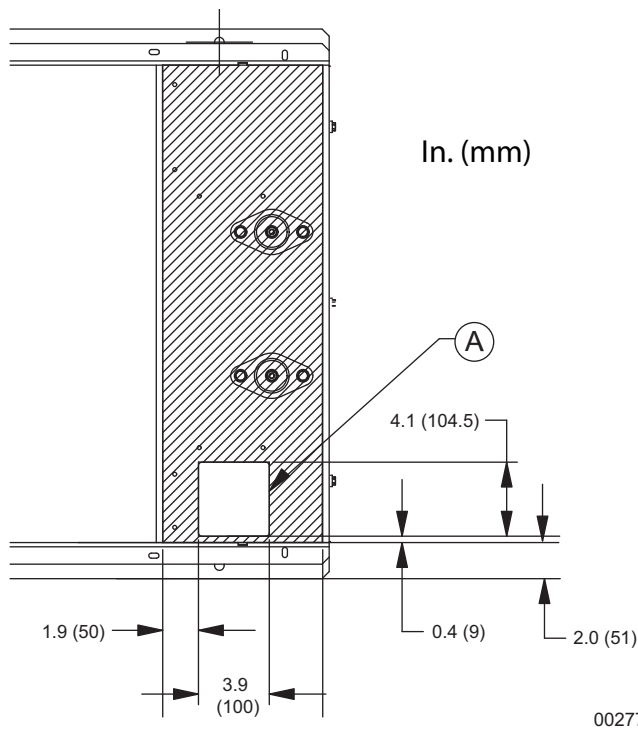

Figure 3-2. Installation Drawing Stub-Up Detail (Typical)
For load conduit, auxiliary power conduit (high voltage), and control wiring conduit (low voltage), see the unit installation drawings for the location and dimensions of the stub-up area. **Figure 3-2** (A) illustrates a typical stub opening.